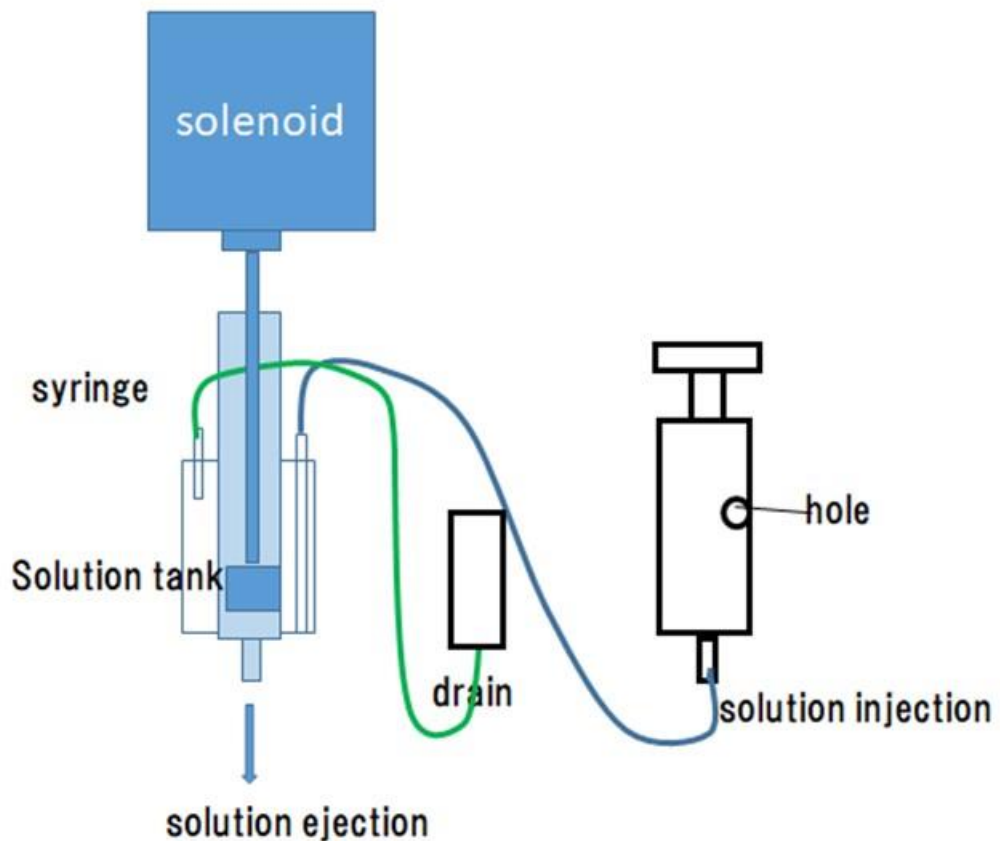

Figure 1-6 Conceptual diagram of the solution supply system
- 1) You put buffer solution in the outer reservoir. Then push shaft to inject the buffer solution into the solution tank over covering the hole at the 4ml position with your finger. A conceptual diagram is shown in figure 1-6. The buffer solution goes into the solution tank from the bottom side and goes up to flow out from the upper side.